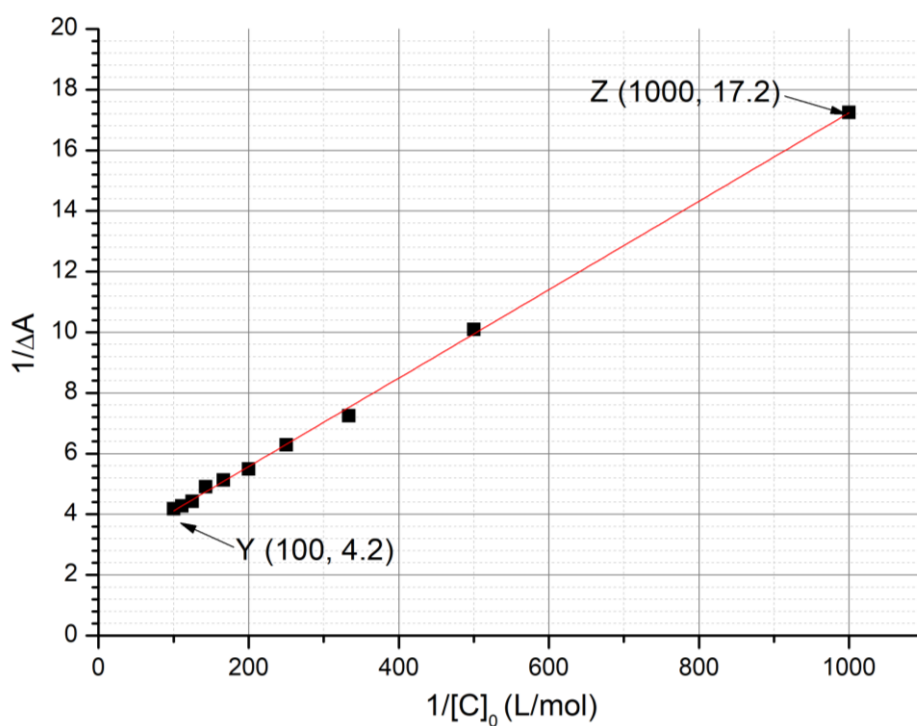

Fig. 3 – Evolution of $1/\Delta A$ as a function of $1/[C]_0$.
6. **Determine** K_t using the following experimental curve (**Fig. 3**).